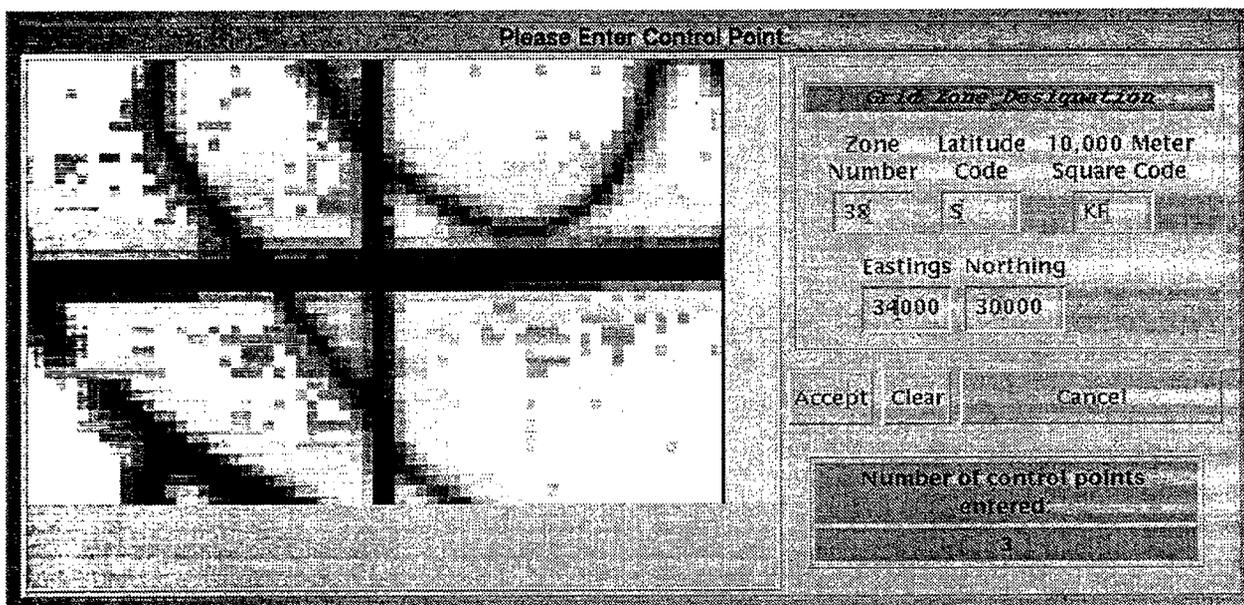

Fig. 60 — Control point entry window, including zoomed-in area surrounding the point, plus entry boxes for geographic coordinates (here, in MGRS format)
- (b) MMC will display a **Control Point Entry Window** with a zoomed-in view of this point and the surrounding area to let the user pick the point more accurately (Fig. 60). In this window, click on the selected point as accurately as possible (e.g., the intersection of latitude and longitude lines), then enter the latitude and longitude values for this point. To reenter these values, click on *Clear* and reenter them. Note: if MGRS is the preferred control point format (in step 1), enter the control points in MGRS units, as shown in Fig. 60, not latitude and longitude.